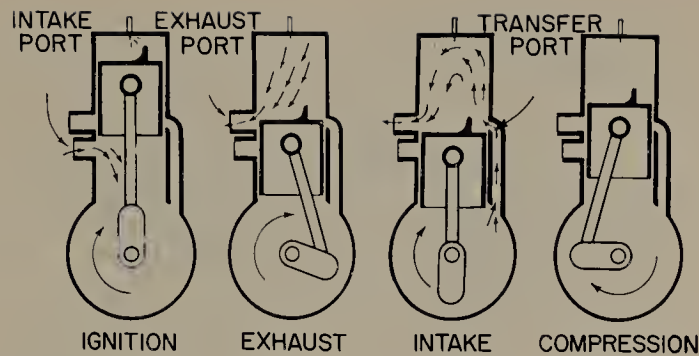

FIGURE 3.22 Actions in a three-port, two-cycle engine. The third port is called the transfer port.
3.11 Transfer Port. Instead of using a reed valve in the crankcase, some engines have a third, or transfer, port in the cylinder, as shown in Fig. 3.22. In this type of engine, the intake port is cleared by the piston as it approaches TDC. When this happens, the air-fuel mixture pours into the crankcase, filling the partial vacuum left by the upward